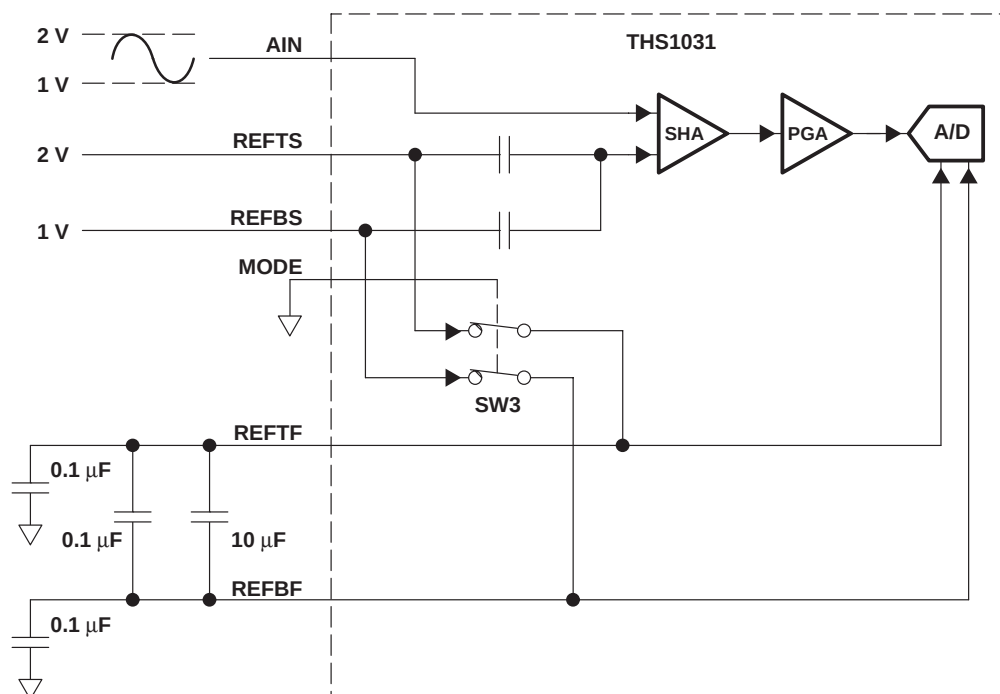

Figure 15. External ADC Reference Mode
- **External ADC Reference Mode:** A single-ended analog input is accepted at the AIN pin where the input signal is bounded by the voltages on the REFTS and REFBS pins. Figure 15 shows an example of applying external reference to REFTS and REFBS pins in which REFTS is connected to the low-impedance 2-V source and REFBS is connected to the low-impedance 2-V source. REFTS and REFBS may be driven to any voltage within the supply as long as the difference $(REFTS - REFBS)$ is between 1 V and 2 V as specified in Table 2. Figure 16 shows an example of external-reference using a Kelvin connection to eliminate line voltage drop errors.